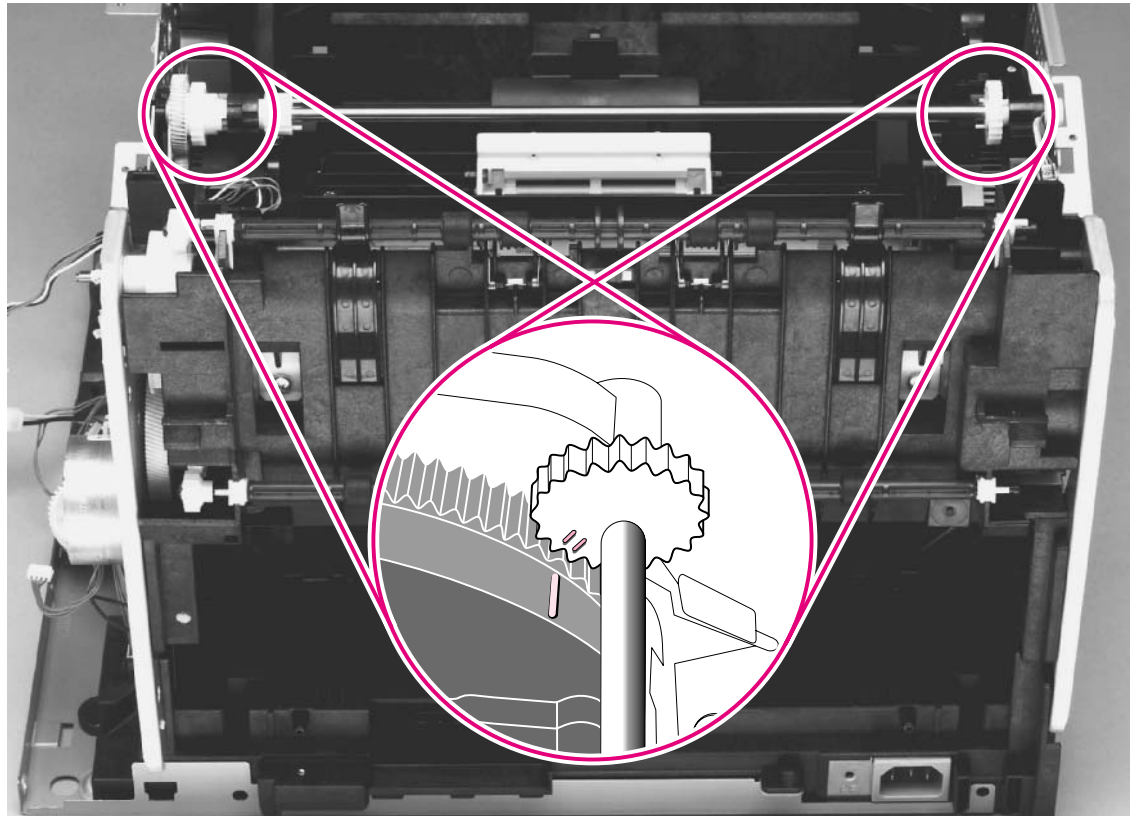

Figure 95.
- 2 Examine the gears: two marks on the smaller gear should line up with the single mark on the larger gear (see the detail of the gears in figure 95).